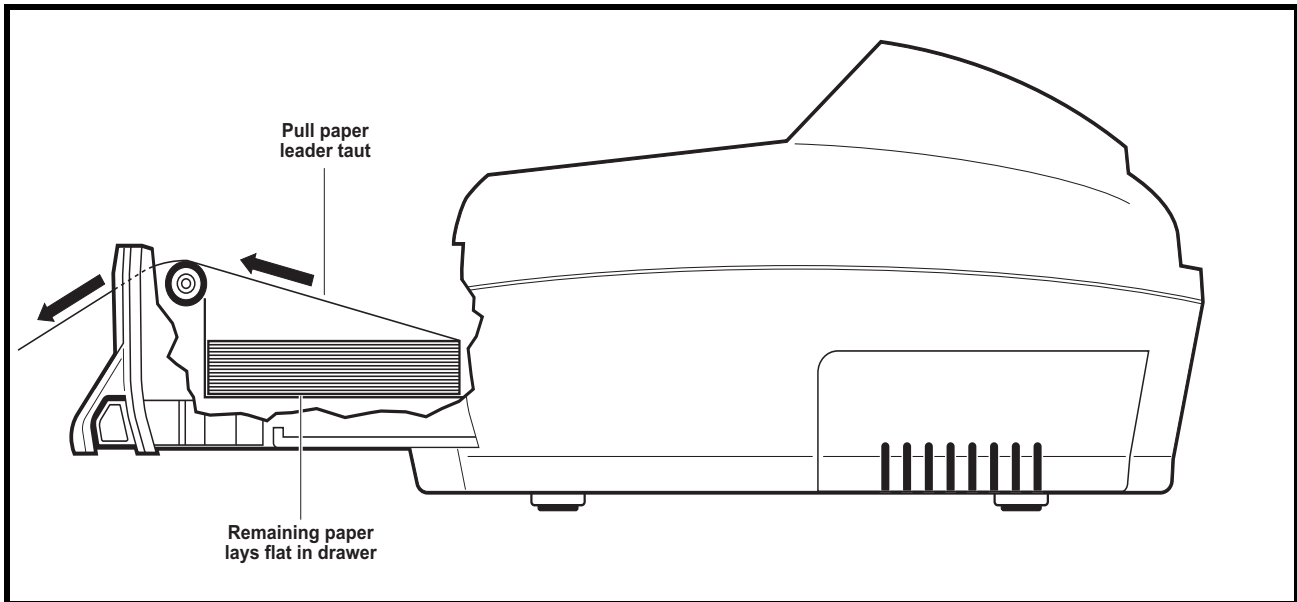
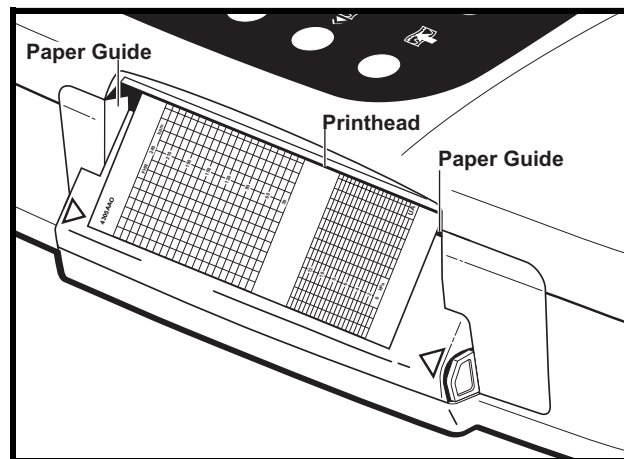

Figure 4-7. Paper Drawer Side Cutaway View
Figure 4-8. Closing the Paper Drawer
- Pull the paper leader taut at an angle between remaining pack and the paper guides. The balance of the paper pack should stay flat in the drawer as shown in Figure 4-7. (The paper guides are shown in Figure 4-8.)